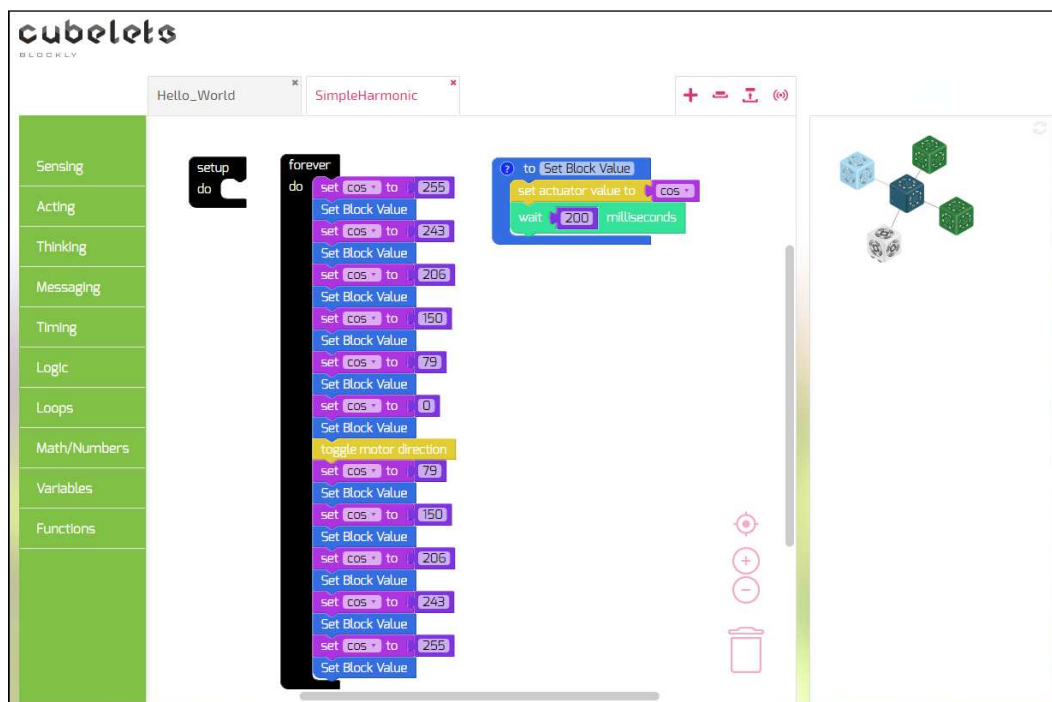

Figure 6
Figure 6 shows the Cubelets Blockly program for the challenge to make a DRIVE Cubelet move back-and-forth with a Voyager Range Finder graph that is sinusoidal, showing simple harmonic motion. This is more challenging for a variety of reasons:
The above mentioned ramifications led the author to the Cubelets Blockly program shown in Figure 6. Six different actuator values between 0 and 255 were manually calculated that would provide roller wheel speeds that vary cosinusoidally with time. The user defined *Set Block Value* function set the actuator to the desired value and then waits 0.2 s, while the DRIVE Cubelet travels at the desired speed. The motor direction is toggled when the speed is 0 and the DRIVE Cubelet is at the far ends of its harmonic motion. The speed is a maximum (255) when the DRIVE Cubelet is at the center of its motion.